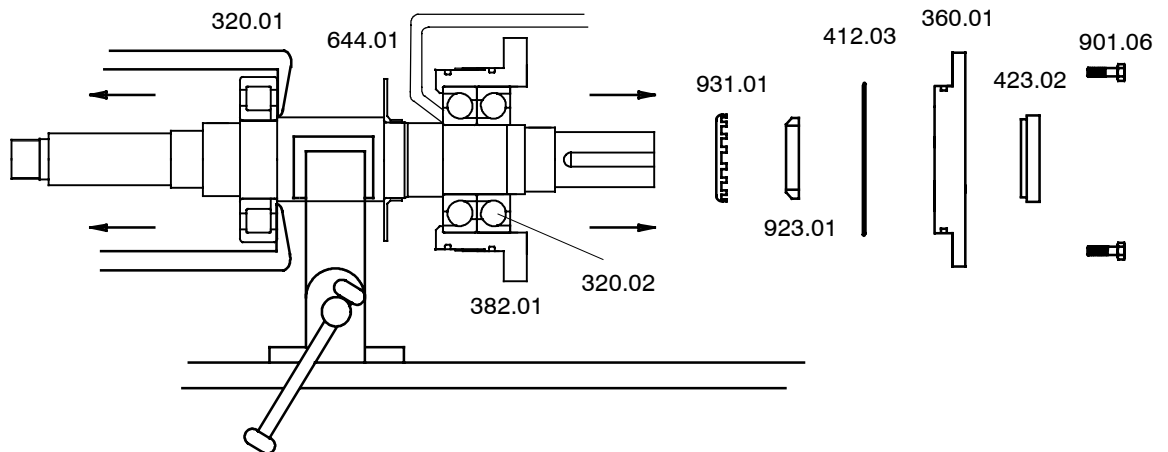

Fig. 7
- 6 Fasten the shaft with its bearings, bearing carrier and bearing cover to a vice from the center of shaft. Fig. 7. Use soft sheets between the vice clamp jaws to avoid damaging of shaft.
- 8 Unscrew the hexagonal screws (901.06). Draw the bearing cover (360.01) out by using the hexagonal screws (901.06). As a result the labyrinth ring (423.02) can also be removed. Fig. 7.
- 10 Remove thrust bearings (320.02) and bearing carrier (382.01) from the shaft with an extractor. Fig. 7.